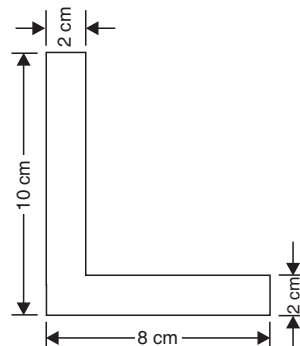

Fig. 4.44
2. Find the centroid of the lamina shown in Fig. 4.44. [Ans.  $\bar{x} = 2.50$  cm,  $\bar{y} = 3.50$  cm]